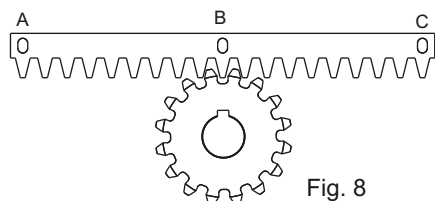
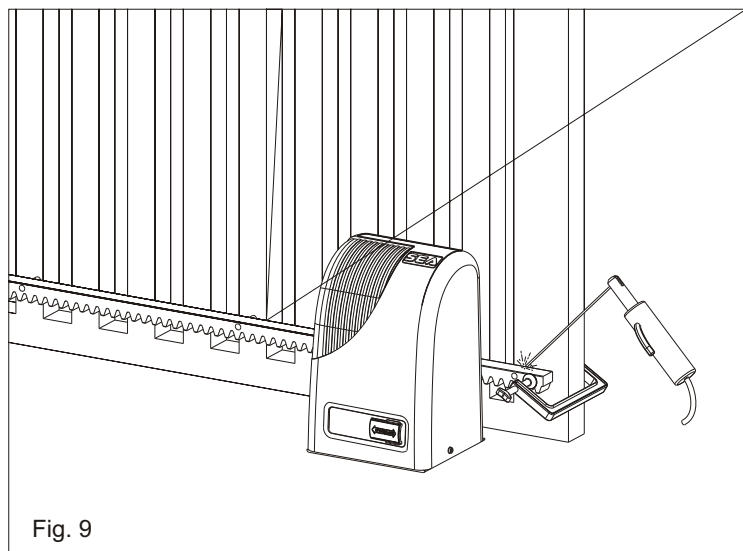

Fig. 8
Fig. 9
5.3. Lay the section of rack on the pinion of the operator as in Fig. 8 so that it results parallel to the pavement guide of the gate and tack weld the central bolt B to the gate (Fig. 9).